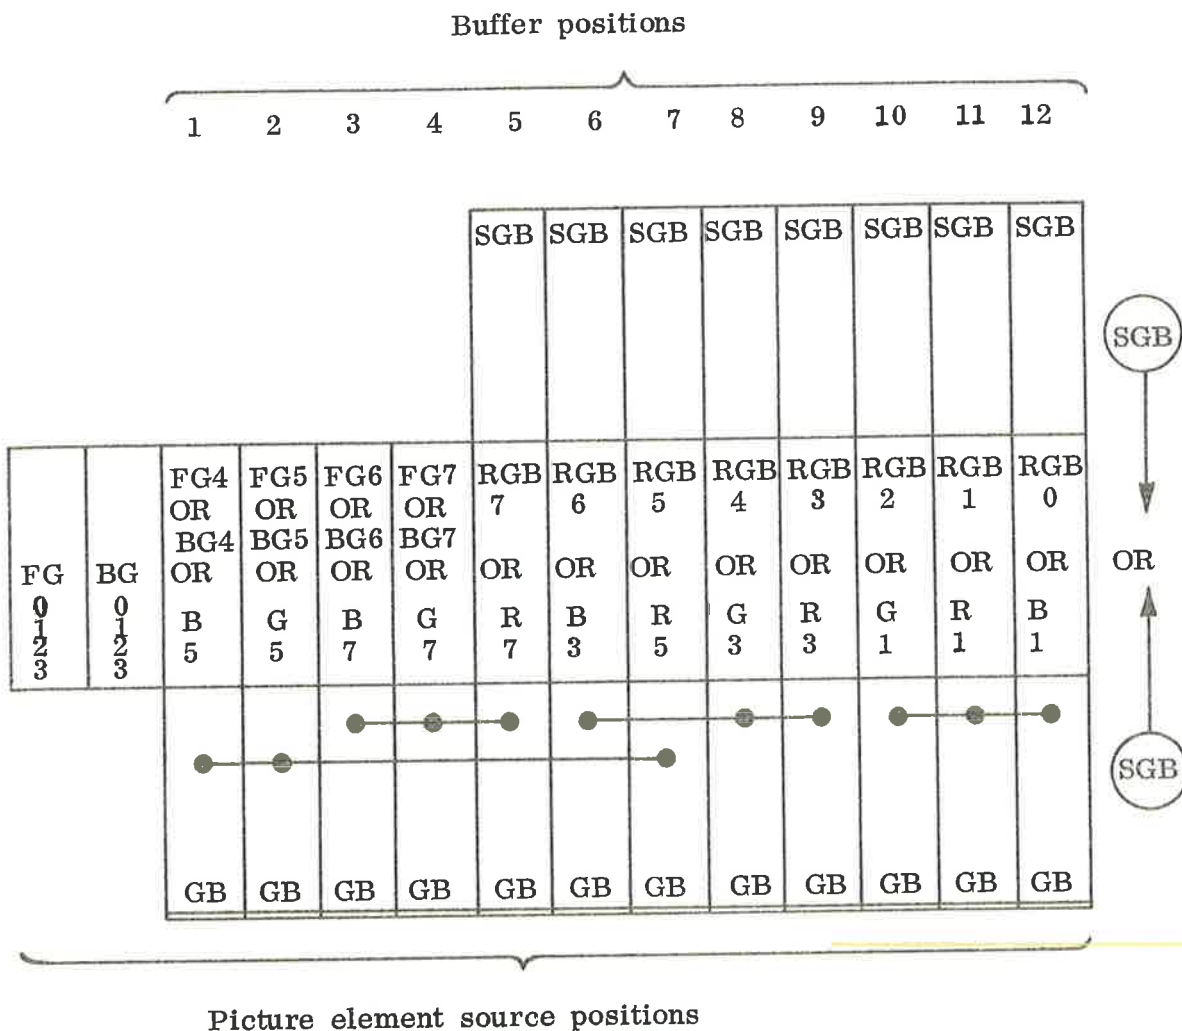

Figure 4.1.
- The first 4 buffer positions are decided only for GB and are connected to give foreground, background and one colour for a main picture. See figure. 4.1.